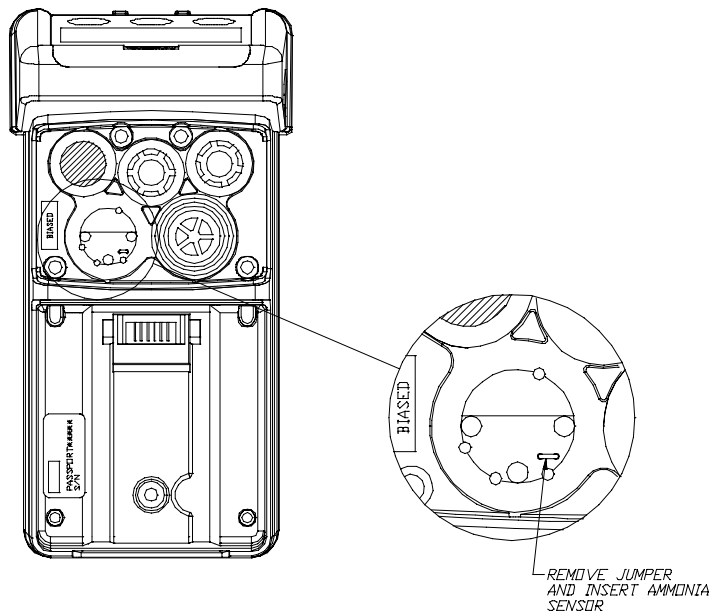

Figure 1. Removing the Jumper
- For instruments with serial number prefixes of "G0" or higher, remove jumper and insert sensor (FIGURE 1).